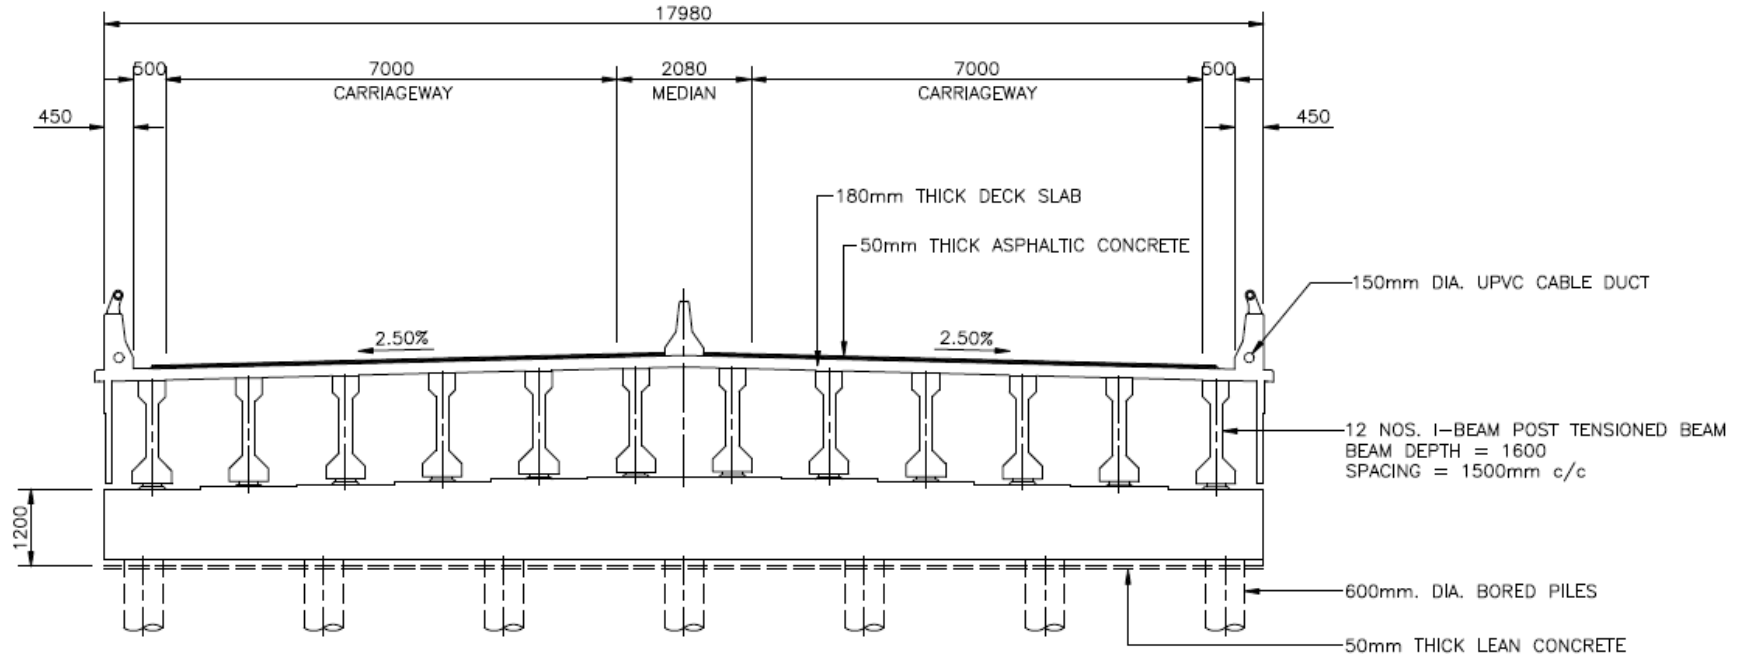

Figure 1 : A bridge deck with the post-tensioned I-beam type
- (1). A dual-carriageway of a bridge deck as shown in **Figure 1** is to be analysed for design purpose. The design data are as given in **Table 1 (a)**, **(b)** and **(c)**. Evaluate the maximum shear force acting on each abutment due to the combination of HA and HB load type. The position of leading axle of the HB loading is at 18.30 m from the left end abutment. Use the HB loading with the 6.0 m inner axle spacing.